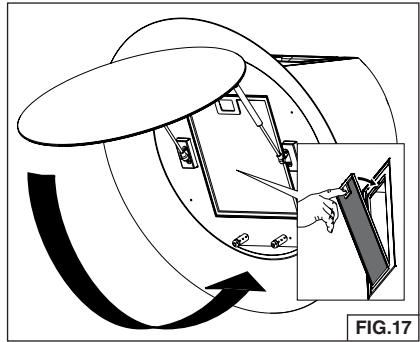

FIG.17
15. Re-install grease filter. Fig. 17.